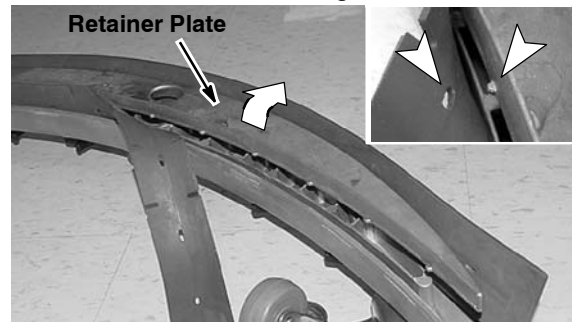

FIG. 52
4. To replace the front blade, remove the rear band and fully loosen the four squeegee assembly knobs, do not remove the knobs. Lift and tilt the retainer plate to access the front blade (Figure 52). Rotate the front blade to a new wiping edge and return the retainer plate. Make sure the retainer plate tabs engage the blade slots. Reinstall the band then retighten the knobs.